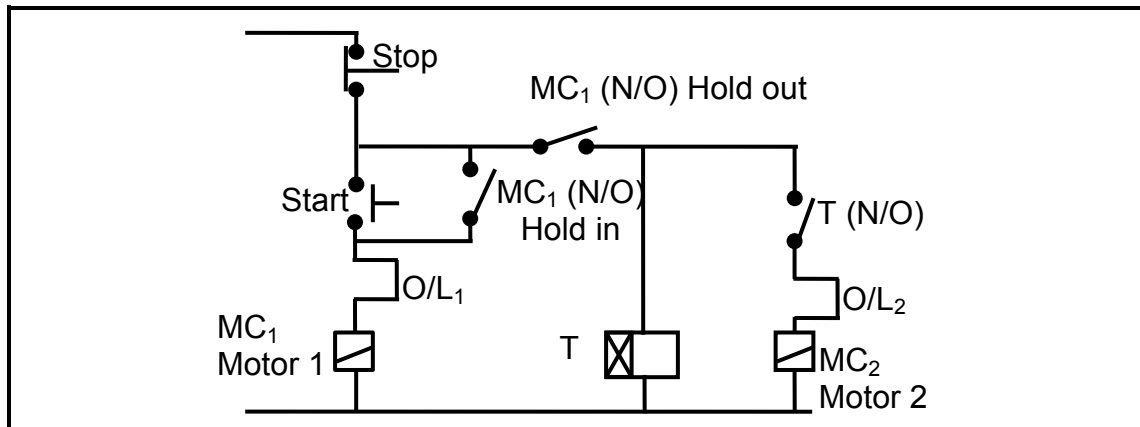

FIGURE 4.2: CONTROL CIRCUIT OF AN AUTOMATIC SEQUENCE STARTER
- 4.11 The control circuit in FIGURE 4.2 below represents an automatic sequence starter.